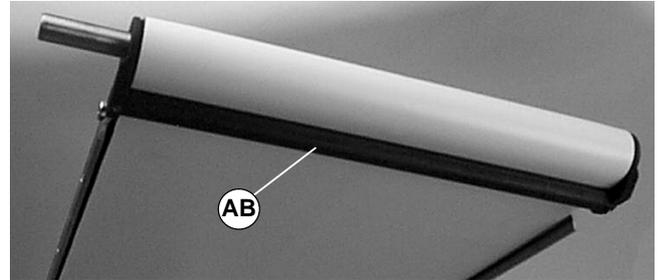
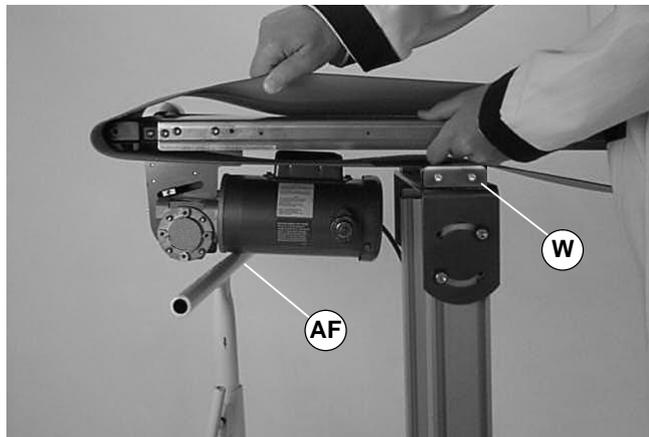

Figure 19
Figure 23
1. For a flat belt conveyor, remove and retain the bottom wiper(s) (AB of Figure 19).
The weight of the gearmotor is all on one end of the conveyor which could cause it to tip off the stands when the mounting clamp plates are loosened. Be sure to provide support (AF of Figure 23) underneath the gearmotor while changing the belt.
6. Temporarily support conveyor at gearmotor mounting package (AF of Figure 23).
7. Loosen the mounting clamp plates (W of Figures 23 and 24), on both sides of the conveyor. Raise the conveyor and remove the belt.
2. Remove and retain the bottom wiper(s) (AB of Figure 19).
3. On a flat belt conveyor, install bottom wiper(s) (AB of Figure 19). Center set screws in frame and tighten to 3.7 Nm.
2. Loosen the mounting clamp plates (W of Figures 23 and 24), on both sides of the conveyor. Raise the conveyor and replace the belt.
4. Tighten clamp plates screws (W) to 9 Nm.
5. On a flat belt conveyor, install bottom wiper(s) (AB of Figure 19). Center set screws in frame and tighten to 3.7 Nm.